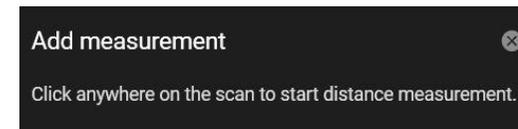

Fig. 36 Add Measurements pop up
2. Press on the  icon and the window Fig. 36 shall pop up asking to place the mouse on a specific point to start and end the measurement.